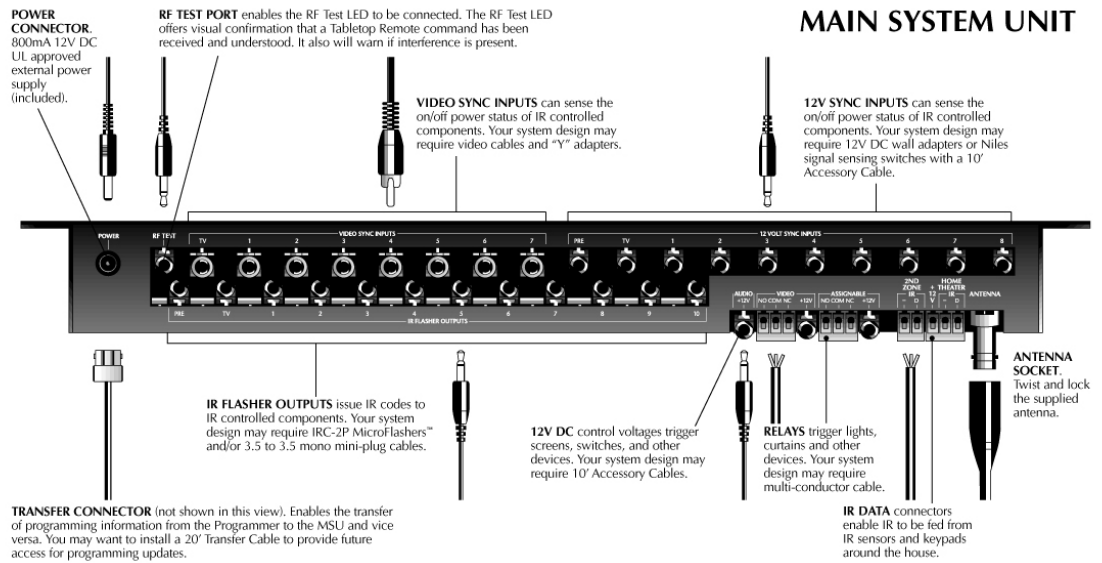

Figure 12 Labeling Cables
- a. Label all cables for both the component they are connected to, and whether they are IR, sync, interconnect, or power. For example, the flasher routed to the TV is labeled "TV IR", while the sync cable from a 12V wall adapter plugged into the switched outlet of a Cable TV Decoder is labeled "CATV-Sync" (see Figure 12).